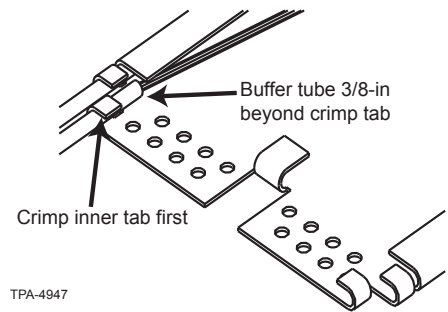

Figure 4
**Step 2:** Use the inner tab on the splice tray first. Position the buffer tube approximately 1 cm (3/8 in) beyond the tab (Figure 4). Crimp the buffer tube under the tab using the crimp tool.